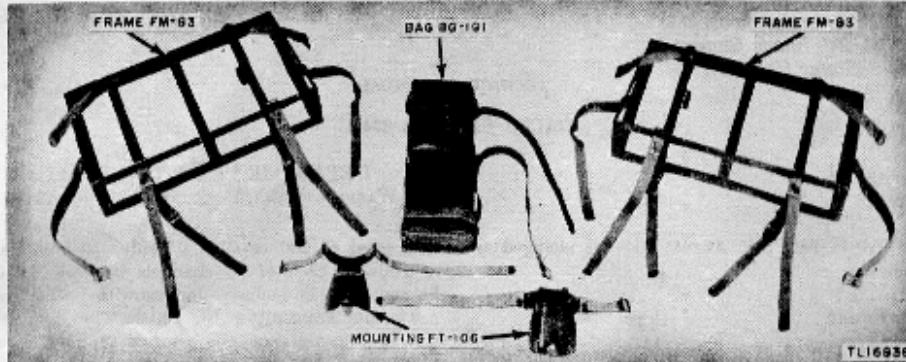

Figure 8.1 Pack Equipment CR-18.
b. LIST OF COMPONENTS. Pack Equipment CE-13 (fig. 8.1) consists of the following components: